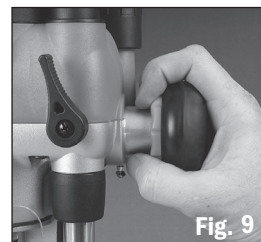

Fig. 9
2. Pull the Winder Handle Clutch Ring into the handle then turn the handle to raise or lower the cutter. Release the ring at the required depth, allowing it to “pop out”, locking the cutter at the desired depth **Fig 9**.